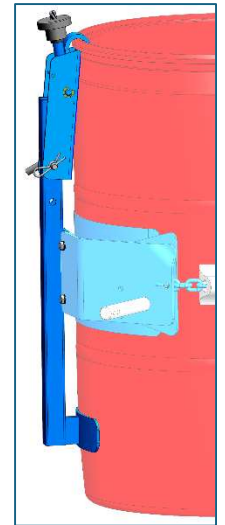

Figure 2.2
- Top Rim Clamp Kit # 4560B-P** to handle a RIMMED plastic drum (figure 2.2). Install the Top Rim Clamp Kit to handle a RIMMED plastic, steel or fiber drum with suitable top rim.